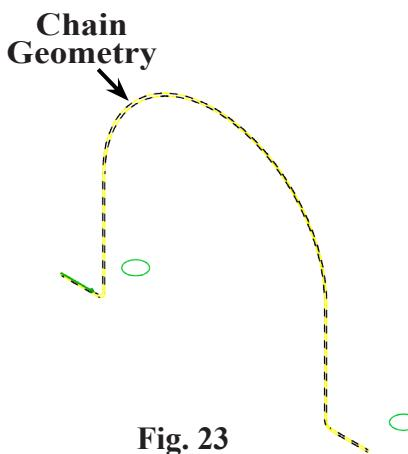

Fig. 23
Step 6. Click any motor mount geometry, not the circles, Fig. 23.